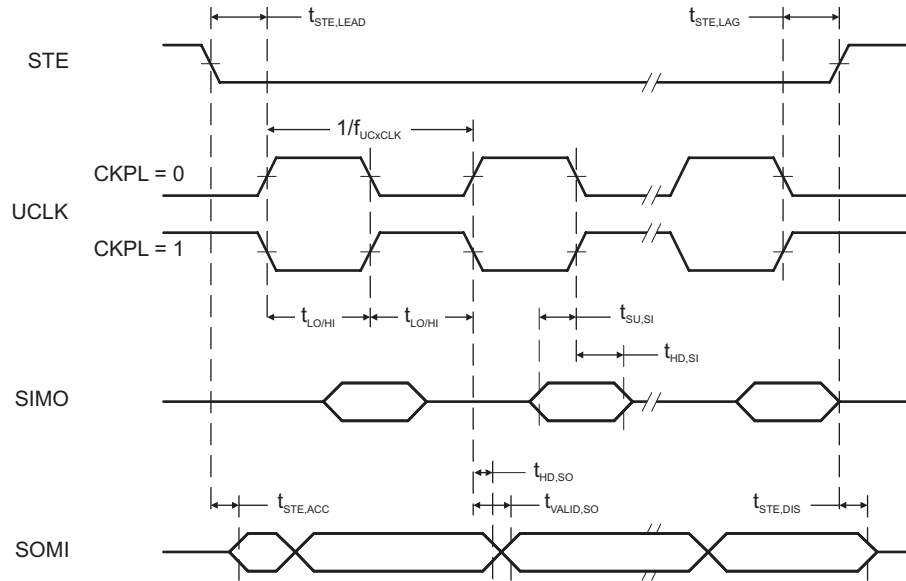

Figure 5-15. SPI Slave Mode, CKPH = 0
(see Figure 5-15 and Figure 5-16)
- (2) Specifies the time to drive the next valid data to the SOMI output after the output changing UCLK clock edge. See the timing diagrams in Figure 5-15 and Figure 5-16.
- (3) Specifies how long data on the SOMI output is valid after the output changing UCLK clock edge. See the timing diagrams in Figure 5-15 and Figure 5-16.